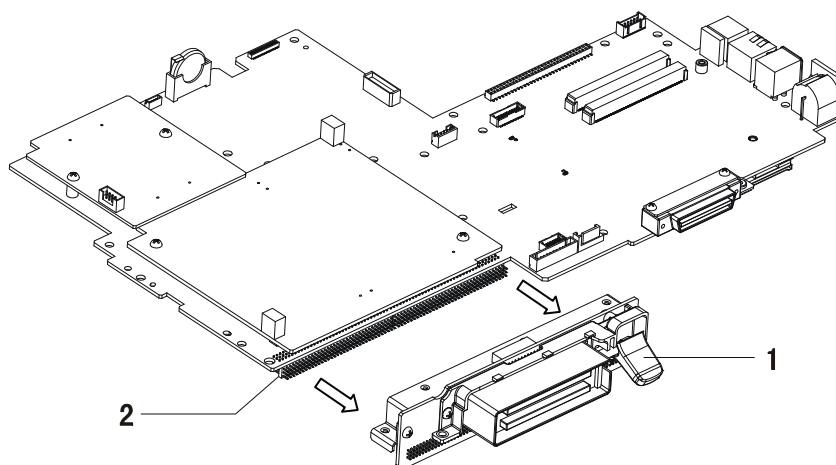

Figure 4-33 Removing Transducer Board (2)
- 3) As shown in Figure 4-33, pull out the transducer board from the main board by both hands, use force evenly, and prevent damaging the connector pins.